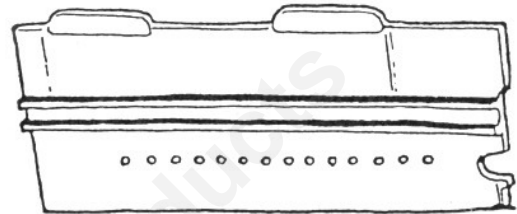

FIG. 6 Back of Fireback
- Cement along the top of the upper and lower ribs on the lower fireback. (Fig. 6).